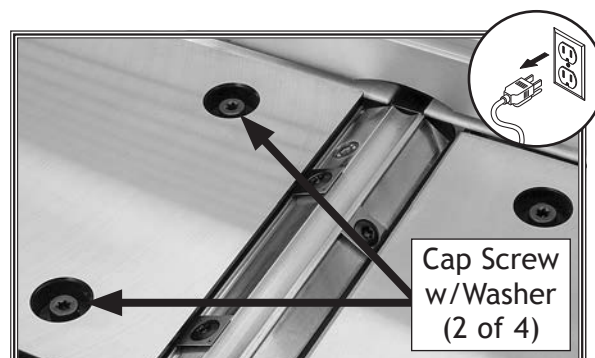

Figure 34. Location of outfeed table leveling adjusters.
2. Access outfeed table leveling adjusters by removing (4) cap screws w/washers from table openings, as shown in **Figure 34**.